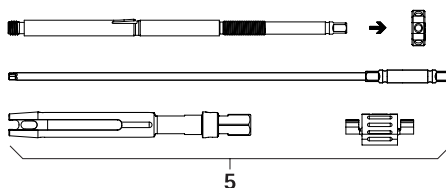

Fig. 3
- Dismantle reduction lever percutaneous 5, see Fig. 3. Fully disassemble and unscrew lock nut.